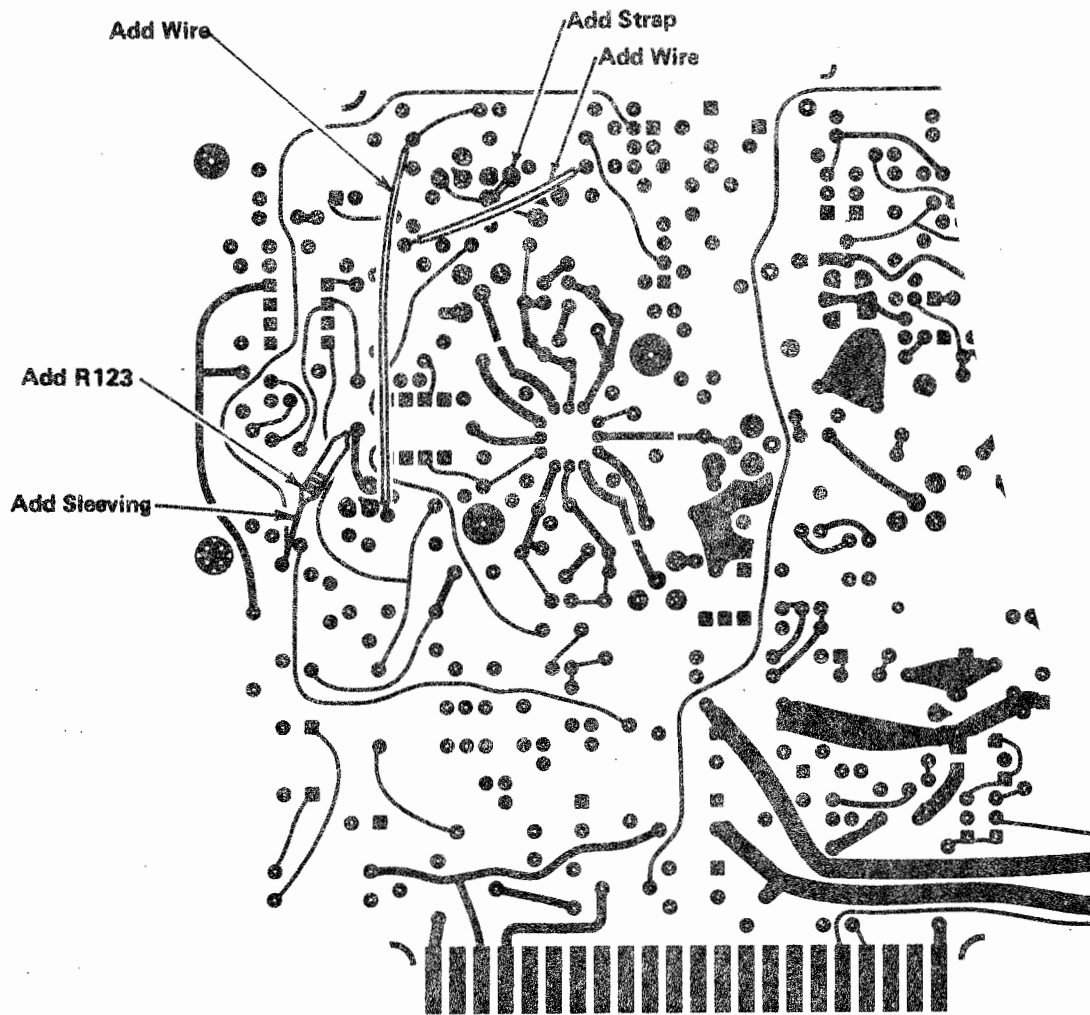

Fig. 2. Locations of Parts on Solder Side of Digitizer Circuit Board (A25).
9. Turn the Digitizer circuit board component side down and make the following changes on the solder side of the board (refer to Fig. 2):